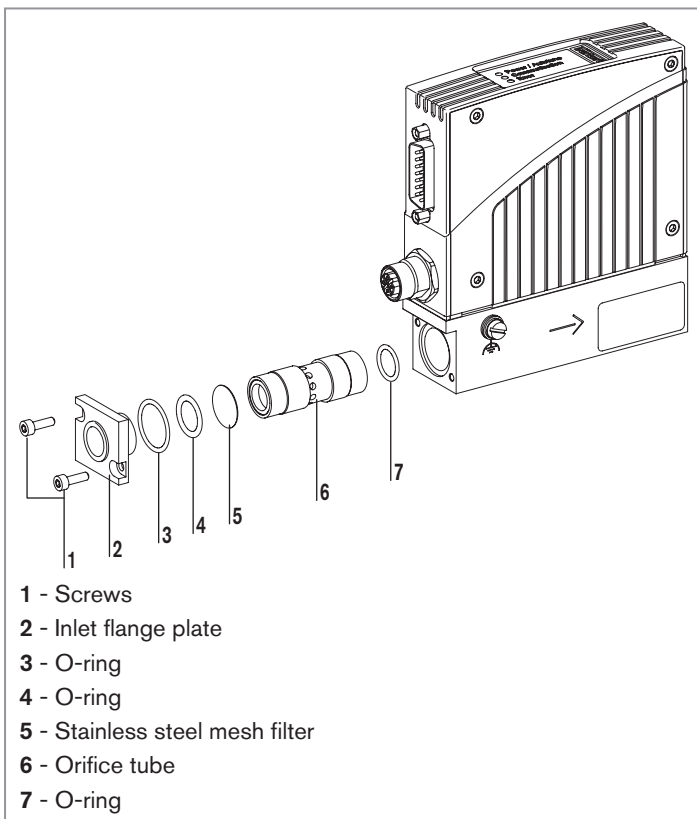

Fig. 20: Maintenance, Cleaning
- To gain access to the stainless steel mesh filter disc, detach the input flange plate [2] (see Fig. 20).
- Re-insert parts in the correct sequence and position (see Fig. 20). The fine mesh of the filter disc [5] must face the input flange plate [2].